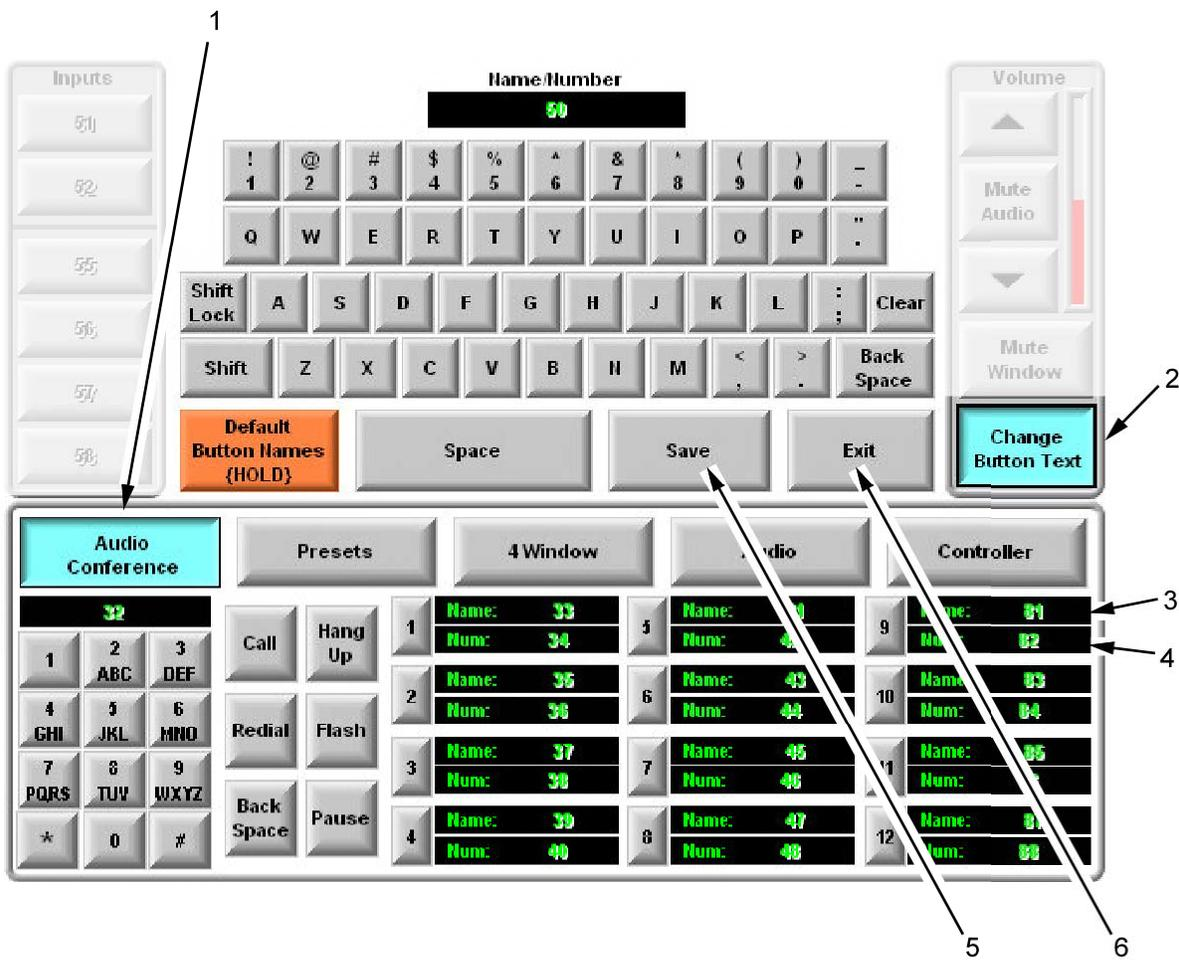

Figure 12: Teleconference Preset Fields.
1. Press the **Audio Conference** button (Figure 12, Item 1) to activate the Audio Conference page.
2. Press the **Change Button Text** button (Figure 12, Item 2) located on the center right of the control panel screen. The onscreen keyboard will be displayed in the middle of the main page.
3. Press the **Name:** field (Figure 12, Item 3), for the preset you are setting, to select the field. Type the name using the onscreen keyboard. Press the **Save** button (Figure 12, Item 5).
All changed text will default back if 'Save' (Figure 12, Item 5) is not pressed before exiting.
4. Press the **Exit** button (Figure 12, Item 6) on the onscreen keyboard to close the keyboard page.
For the number field, enter only the numbers with **Pauses** (Figure 12, Item 5). Do not use dashes.